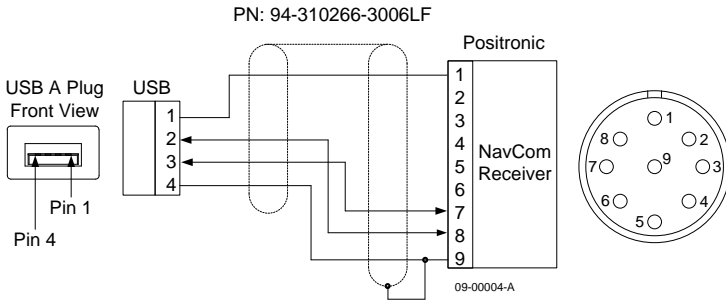

Figure 51: USB Device Cable Pin Assignment
- ✓ Positronic 9-Pin Male to USB 2.0 Device Plug (P/N 94-310266-3006LF): constructed as described in Figure 51.